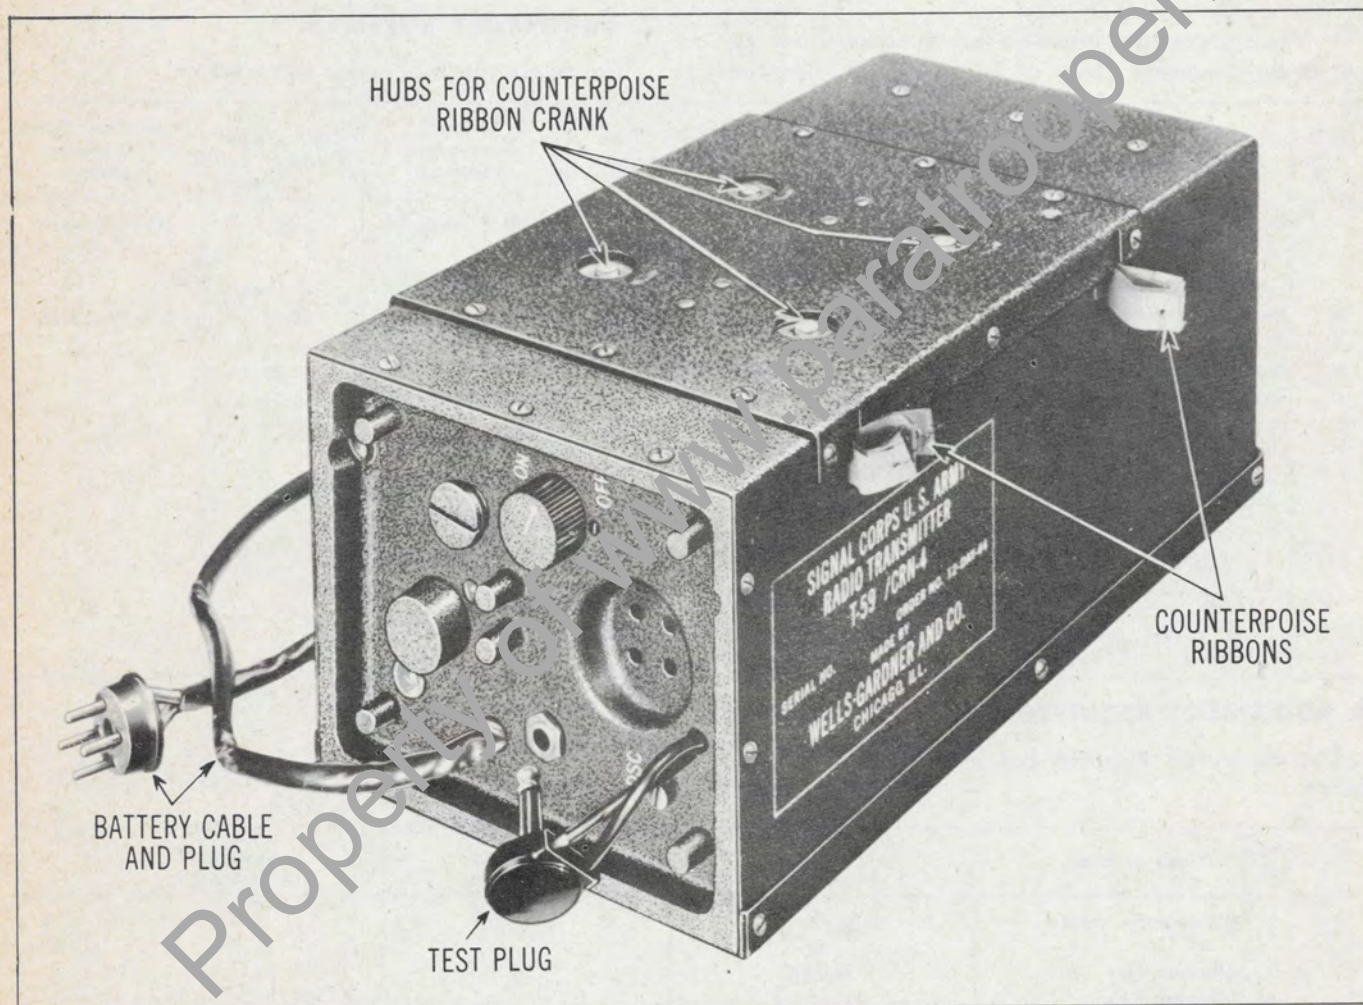

Figure 1-2. Radio Transmitter T-59/CRN-4
a. Radio Transmitter T-59/CRN-4 is enclosed in a rectangular metal case. All controls and the battery cable are located on the control panel at one end of the transmitter. (See fig. 1-2 and fig. 3-1.) Studs and a dummy socket are provided on the panel to hold the battery cable while it is being transported. A receptacle for the antenna plug is located on one side of the transmitter. On the right side of the transmitter are two slots through which the counterpoise ribbons are unreeled. Bag CW-